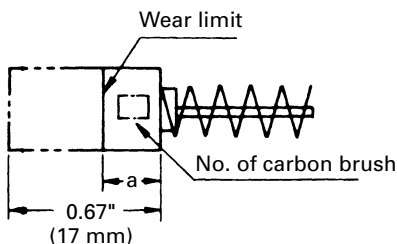

Fig. 16
### 4. Inspecting the carbon brushes (Fig. 16)
**NOTE:** Use HITACHI carbon brush indicated in Fig. 16.